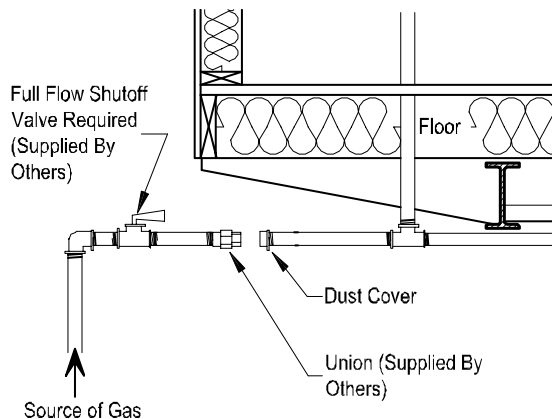

Figure 86. Gas service connection
3. **Remove cap.** Remove the protective cap from home inlet pipe and install a full flow shut-off valve at the supply inlet (**Figure 86**).